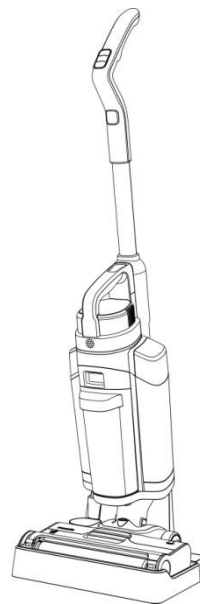

Figure 4-2
Insert the end of the handle assembly into the corresponding top position of the fuselage in the vertical direction shown in Figure 4-1, and there is a snap positioning inside to ensure that it is tight and not loose after insertion, and the assembly is completed after hearing a "click", as shown in Figure 4-2.
A. Insert the end of the hose assembly into the corresponding position of the fuselage in the vertical direction shown in Figure 4-1, with a snap positioning, lift it lightly, complete the assembly after hearing a "click", and press the "release button" to disassemble. Figure 4-2.
B. Insert the window brush, electric brush and flat suction end into the corresponding position of the head of the hose assembly according to the vertical direction shown in Figure 4-1, with a snap positioning, and complete the assembly after hearing the "click", and only need to press the "release button" to disassemble. Figure 4-2.